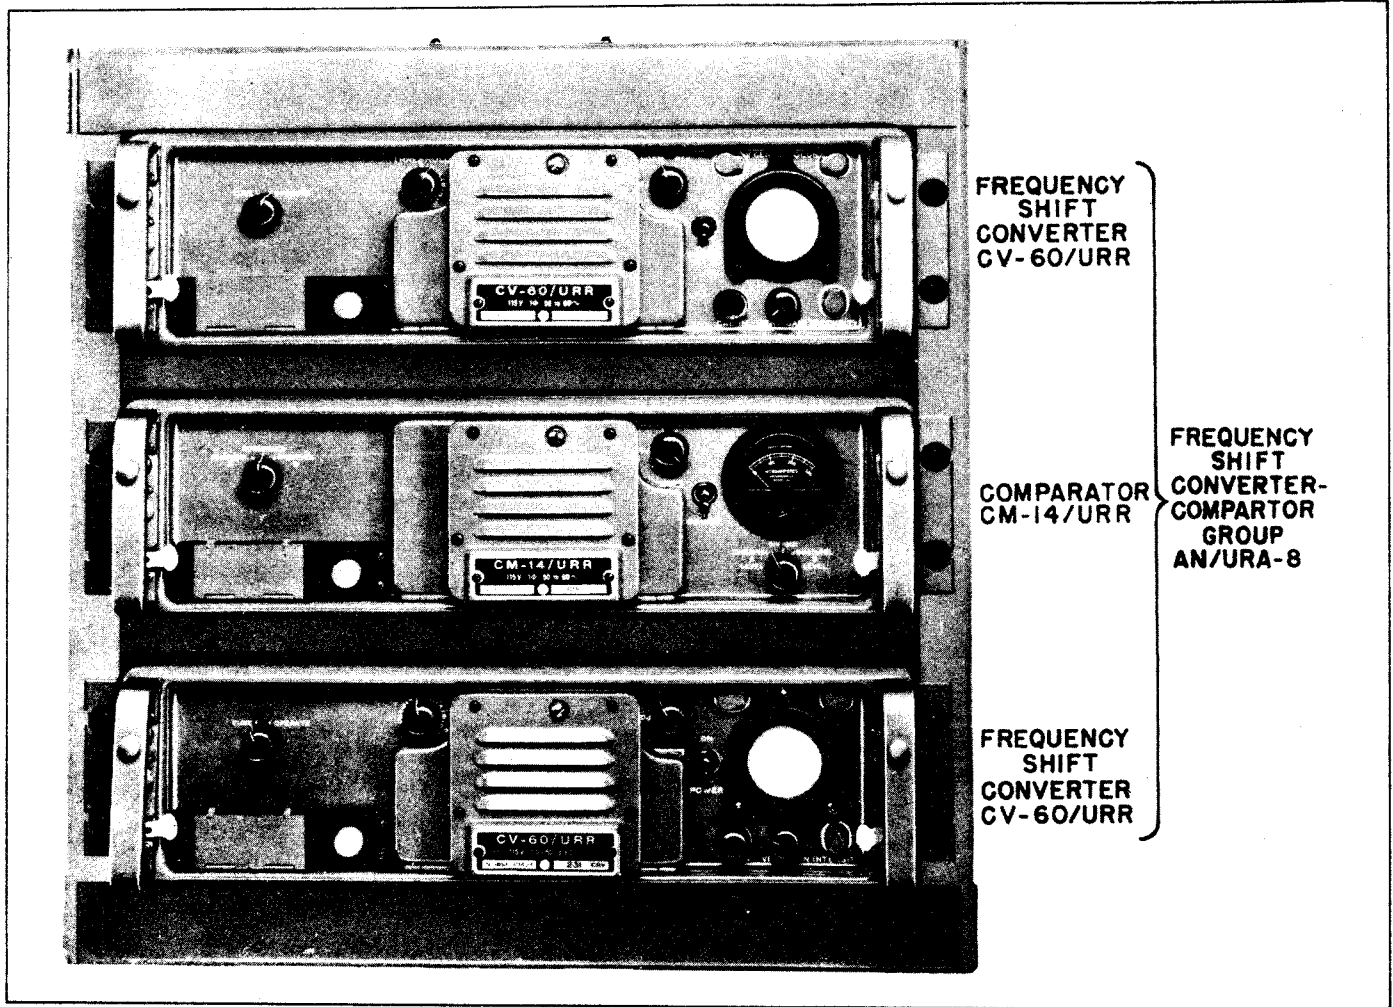

Figure 1-1. Frequency Shift Converter-Comparator Group AN/URA-8
b. FREQUENCY SHIFT CONVERTER-COMPARATOR GROUP AN/URA-8.—Frequency Shift Converter-Comparator Group AN/URA-8 consists of two Frequency Shift Converter CV-60/URR units with one Comparator CM-14/URR unit secured within a table-mounting frame (see Figure 1-1). The units may be removed from this frame and be mounted in a standard relay rack. The CV-60/URR units are connected to separate receivers. The Comparator CM-14/URR selects the better of the two signals from the converters to key the teletypewriter loop and the tone signal.